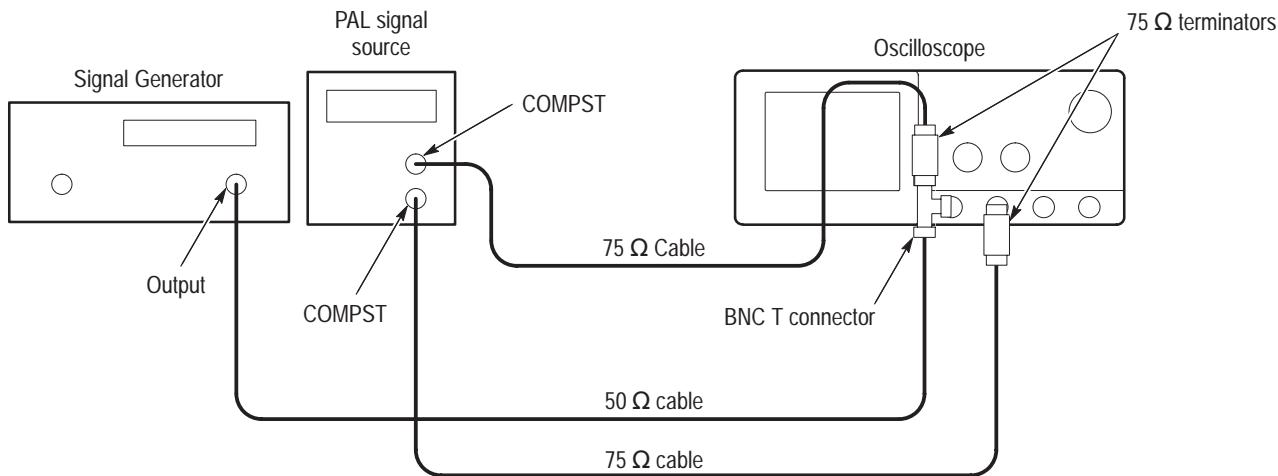

Figure 4–32: Subsequent 60 Hz Rejection test hookup
- Connect another composite signal connector of the PAL signal source (labeled **COMPST** on the TSG 121) through a 75 Ω cable and a 75 Ω terminator to the CH2 input. See Figure 4–32.
- CONFIRM that the **TRIG'D** LED stays lighted and that the waveform on screen is stable. In other words, be sure the waveform does not move horizontally or vertically. Also, confirm that the waveform on the screen has one positive pulse and a number of negative pulses. See Figure 4–33.